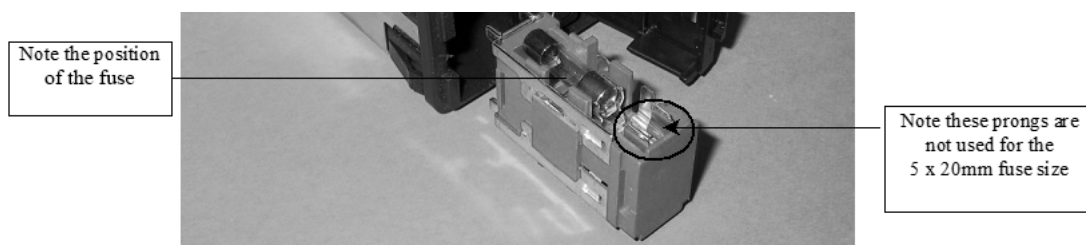

Figure 89: The Sievers Autosampler Fuse Housing
- Insert the new fuse(s). Ensure that the fuse is positioned toward the end and makes contact with the metal tab (extending up from inside the housing). Reference Figure 89 as needed.